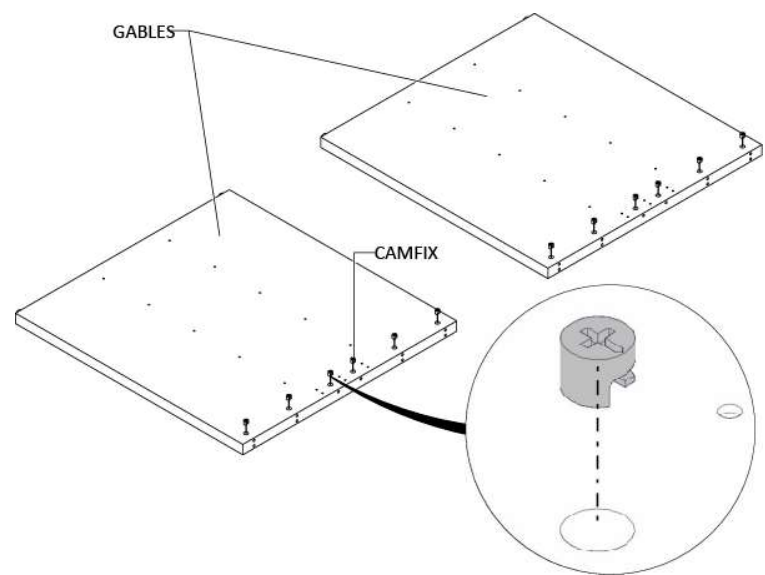

Figure 5
17. Insert the CamFix into the holes of the gables, (Figure 5).